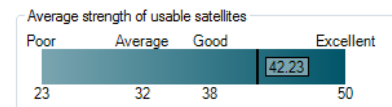

Figure 75 - “Average strength of usable satellites” bar chart
**“Schedule” button:** Click this button to schedule a time at which statistics will be gathered. When clicked, a new window will open prompting for a begin time and duration. Refer to Figure 75.